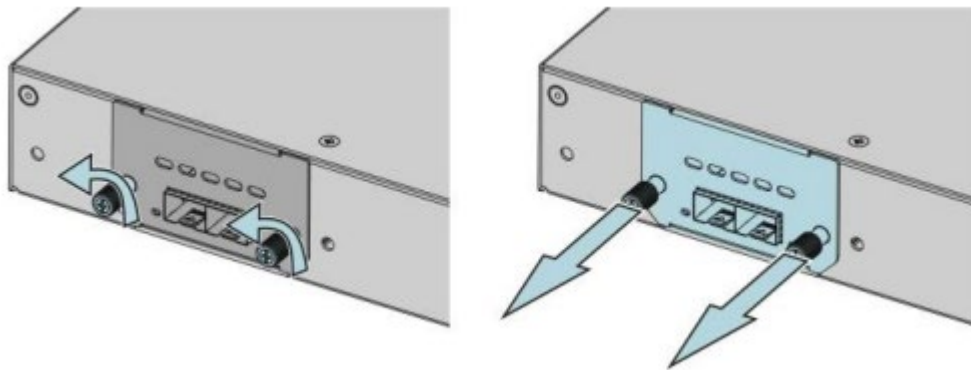

Figure 30: Removing the media module
- ☐ Pull the media module out of the slot. See Figure 30.